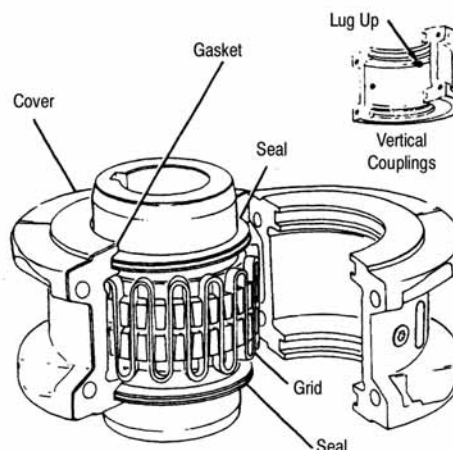

Figure 4. Falk Steelflex Coupling
assembly. When mounting or remounting the coupling hub, for any reason, always put the seal ring on the gearbox or driver shaft first. Then install the coupling hub. The coupling will not seal properly if these rings are omitted (Figure 4).
Pack the spaces between and around the grid with as much lubricant as possible and wipe off the excess flush with the top of the grid. Position the seals on the hubs to line up with the grooves in the cover (Figure 4). Secure the covers with fasteners and tighten them to the torque specifications in Table 1. Grease coupling per Step (6) (b).